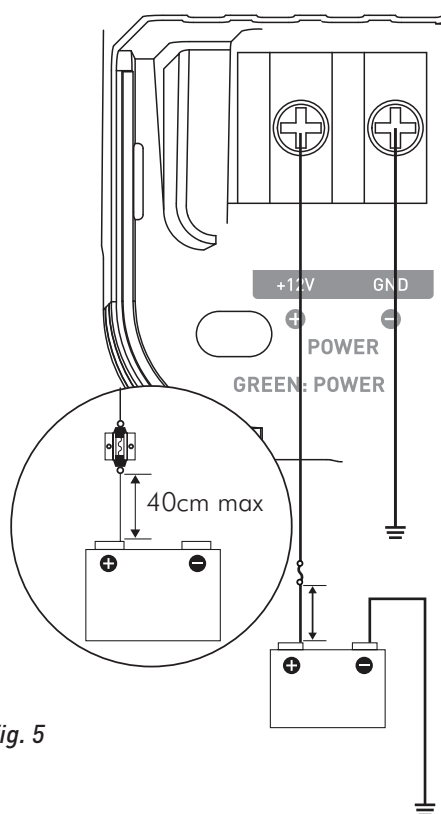

fig. 5
- 9 - Always protect the battery and electric circuit from potential damage with fuses. Install a fuse holder and adequate fuses on the 12V positive (+) power cable less than 40cm away from the battery terminal. Ideally, this above-mentioned distance should be as short as possible (fig. 5).
Prepare the positive power cable (+) to connect it to the amplifier by using the adequate Y-type spade terminal, then block the cable by screwing tight. (fig. 5)